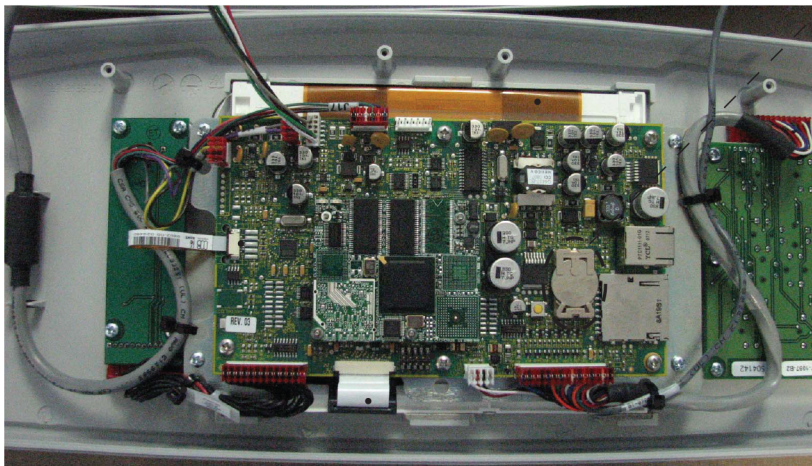

Figure 67 – Battery
7. Remove and discard the battery (Figure 67). Replace with new battery.